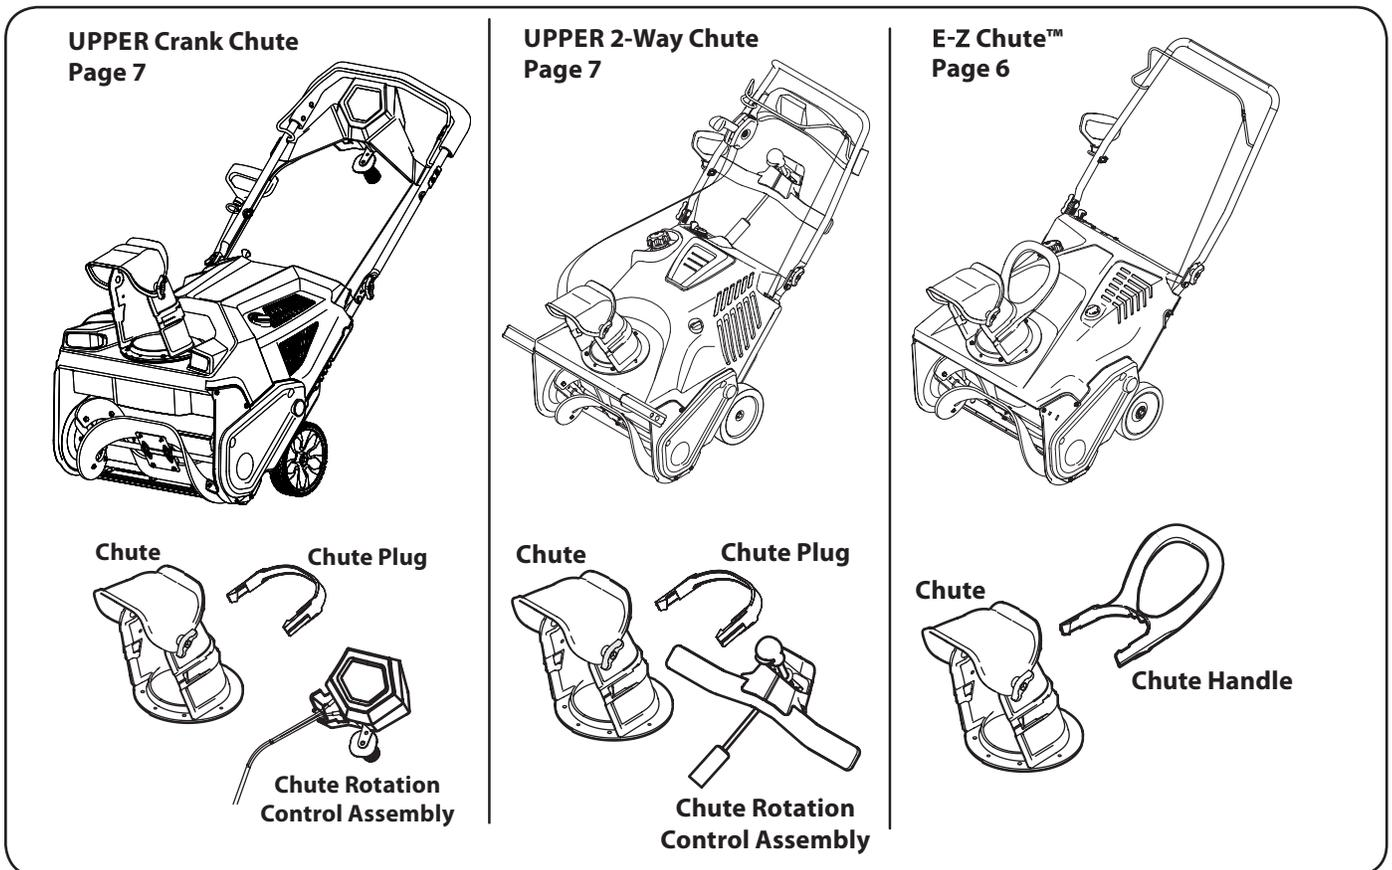

Figure 2-1
- Safety Key (2)
- Chute Assembly (1)
- Chute Rotation Control Assembly (1)
- Pair Drift Cutters (1) — If equipped
- 20 oz. Bottle 5W-30 Oil (1)
- Eye Bolt (1)
- Snow Blower Operator's Manual (1)
- Engine Operator's Manual (1)
- Parts/Warranty Supplement (1)
- Handle Knob (1)
**NOTE:** This Operator's Manual covers several models. Features may vary by model. Not all features in this manual are applicable to all models and the model depicted may differ from yours. Refer to Figure 2-1 to match your chute style.
**NOTE:** Refer to Figure 2-1 and continue to your applicable chute style on pages 6-7.
**NOTE:** Refer to Figure 2-1 and continue to your applicable chute style.